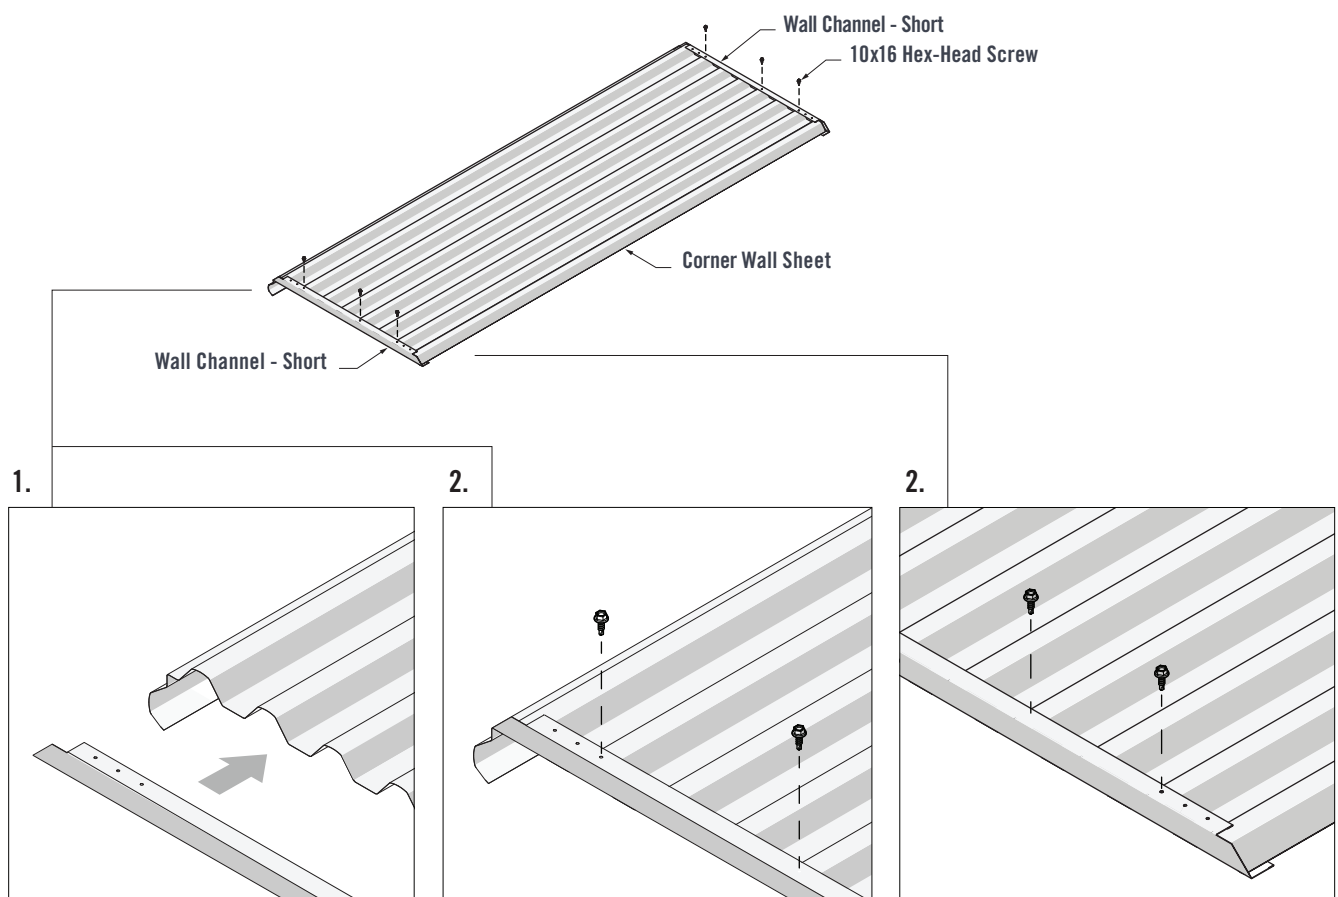

FIGURE 3.2
1. Fit the Wall Channel (Short) over the Corner Wall Sheet. The end of the Wall Channel should fit up against the end of the Corner Wall Sheet (Figure 3.2).
2. Fasten through the third pilot hole of both Wall Channel ends and into the Wall Sheet crests. Fasten through the Wall Channels and into the third Wall Sheet crest using one 10x16 Hex-Head Screw in each Wall Channel (Figure 3.2).